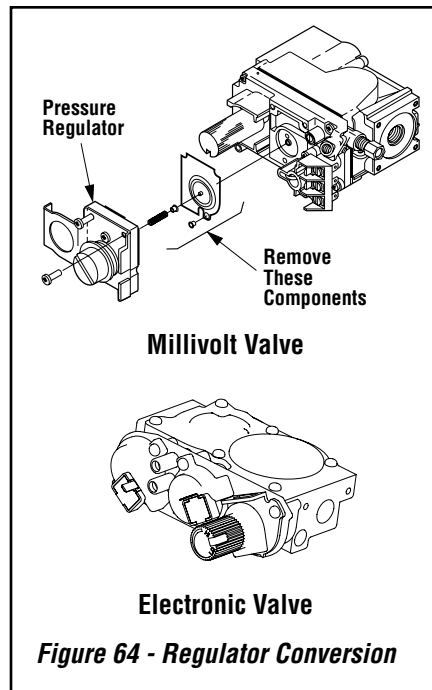

Figure 64 - Regulator Conversion
Step 6. SIT Systems - Refer to **Figure 64** and the instructions provided with the SIT Regulator Conversion Kit. Using a Torx T20 driver (with 1/4" shank and center hole) or slotted screwdriver, remove and discard the pressure regulator mounting screws (two screws for electronic models, three screws for millivolt models), pressure regulator tower, the diaphragm assembly (if applicable) and the spring. Discard all removed components.
Step 7. Install the new pressure regulator assembly using the supplied screws as shown in **Figure 64**. Tighten the screws to 25 in-lb.